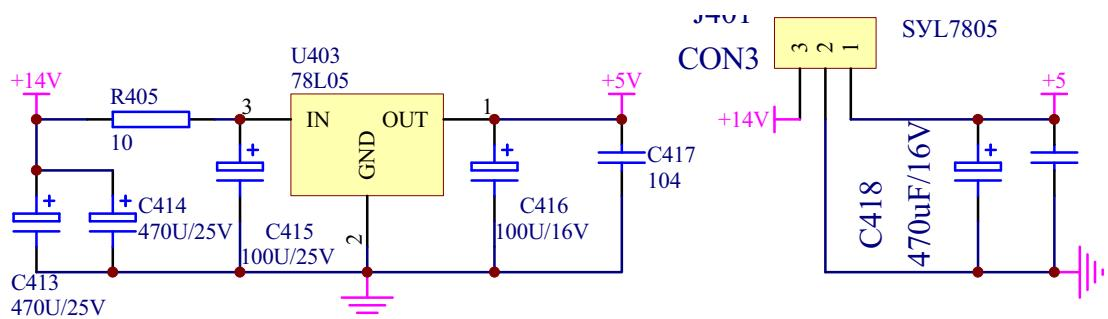

Fig.29B The Main Controlling Board Power Supply
#### (2) PRO85UM, PRO85UM/S Circuit (Fig.29B)